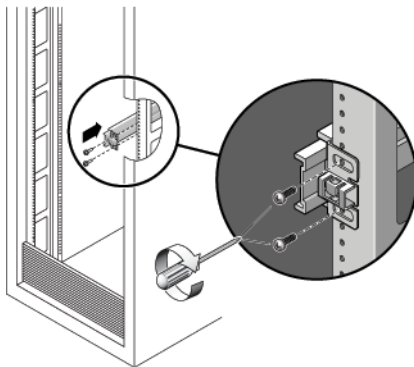

FIGURE 2-2 Slide Rail Assembly Mounting to Rack Post
1. Position a slide rail assembly in your rack so that the brackets at each end of the slide rail assembly are on the outside of the front and rear rack posts (as depicted in FIGURE 2-2).